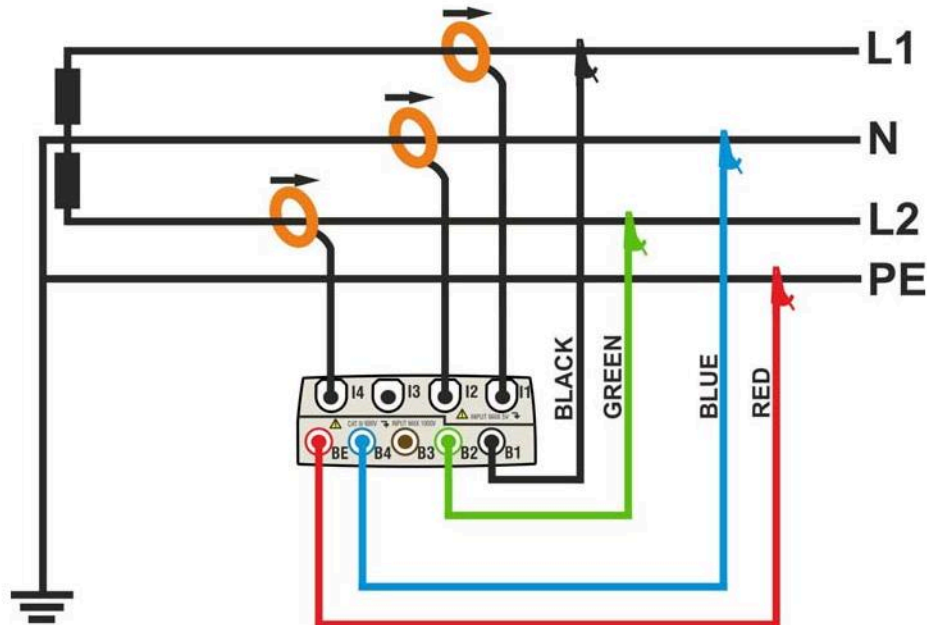

Fig. 173: Meter connection in a two phase 3-wire 1PH3W system
2. Connect voltage test leads on Phases L1, L2, N and PE cables considering the colours as shown in Fig. 173
3. Connect the transducer current clamps on Phase L1, L2, N cables as shown in Fig. 173 respecting the clamp's arrow direction indicating the current standard sequence from generator to load. **On Real Time Values' section screens (selecting a 3 wire system preliminarily) always verify the positive value of Active Power and the power factor relative to load which should be normally inductive before starting a recording.** Reverse the clamp by 180 degrees on cables in case of negative readings.